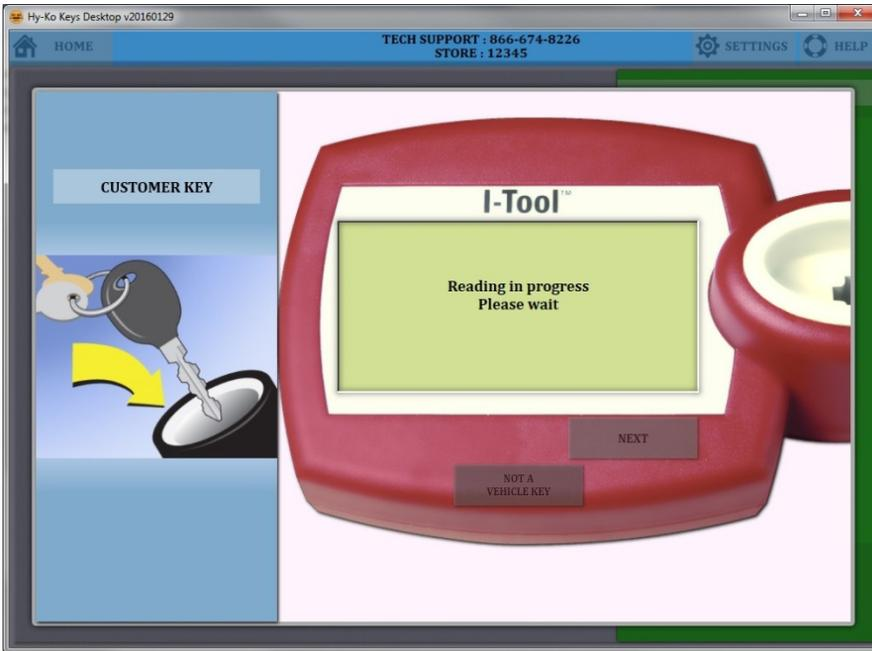

fig. 99
- The I-Tool will read the customer's key (see fig. 99). You can see the progress on the picture of the I-Tool on the software.